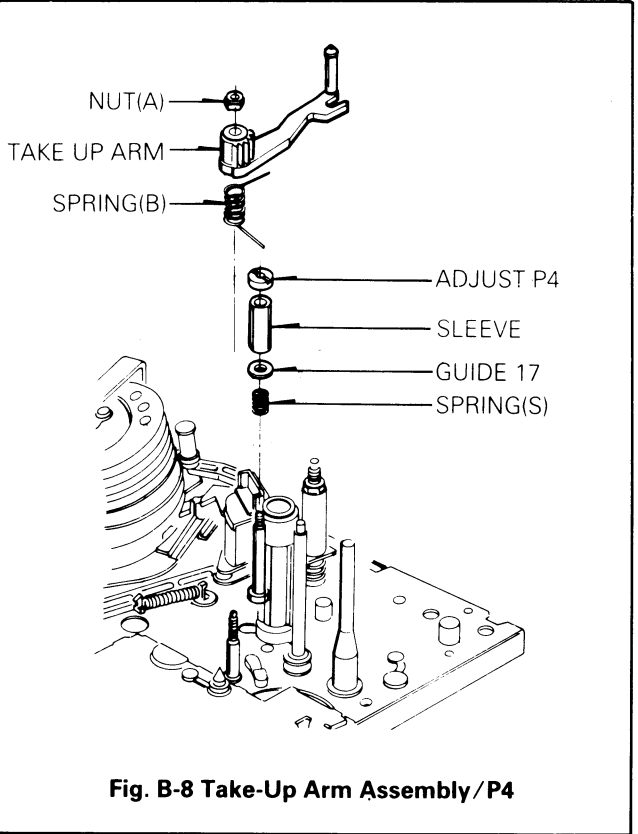

Fig. B-8 Take-Up Arm Assembly/P4
- ① When disassembling the Take-Up Lever, be careful not to break the Hook(A).
- ② When reassemble the Take-Up Lever, align the appendant Gear of Lever Take-Up with the appendant Gear of Take-up Arm
- ③ Reassemble the Take-Up Lever completely by hooking (A).
8. Take Up Arm Assembly(Fig. B-8)
9. P4 Assembly(Fig. B-8)